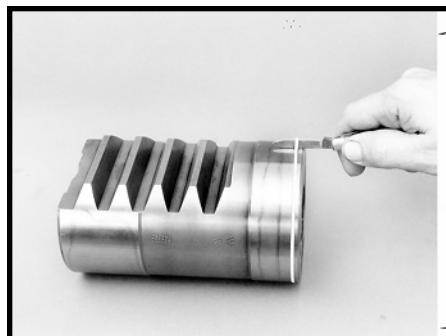

Figure 79
37. Remove and discard the rack piston seal ring (36). SEE FIGURE 79.